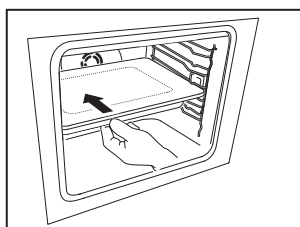

Fig. 3
3. Ensure the plug is fully engaged by firmly pushing the induction tray (Fig. 3).